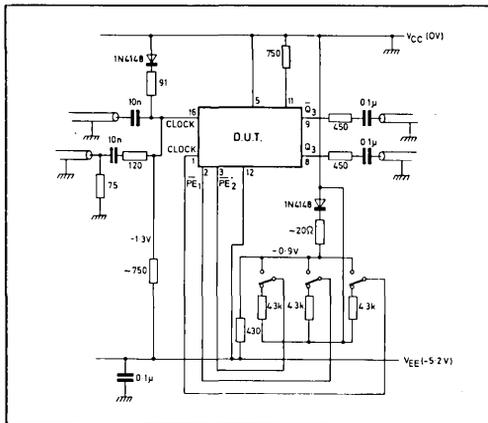

Fig. 5 Test circuit for dynamic measurements
- The devices are dynamically tested using the circuit shown in Fig.5. The bias chain has the same temperature coefficient as ECL III and ECL 10K, and therefore tracks the input reference throughout the temperature range. The devices are tested with input amplitudes of 400 and 800 mV p-p about that reference.